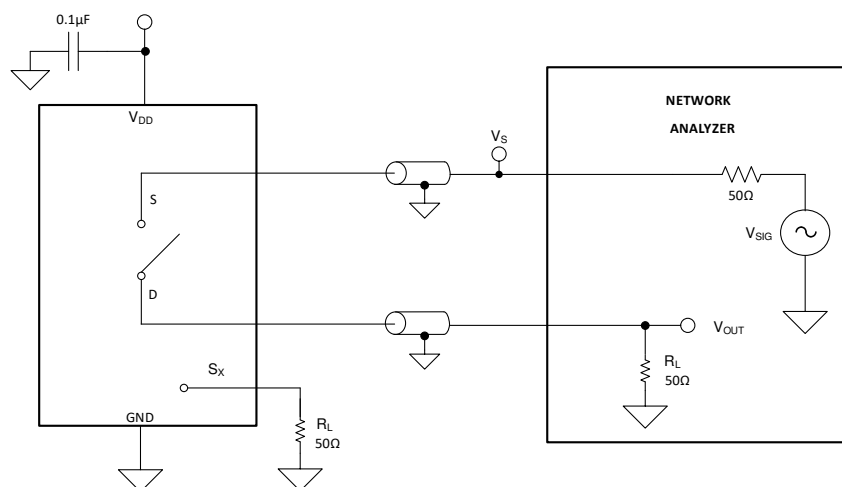

图 6-7. Off Isolation Measurement Setup
Off isolation is defined as the ratio of the signal at the drain pin (D) of the device when a signal is applied to the source pin (Sx) of an off-channel. 图 6-7 shows the setup used to measure, and the equation used to calculate off isolation.